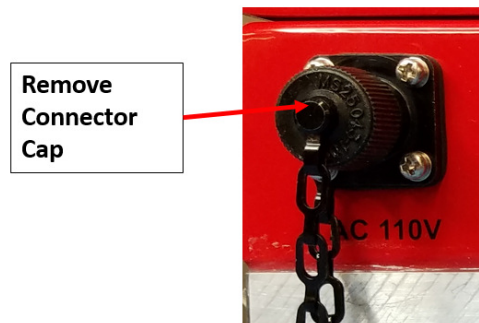

Figure 5-6: Remove the Power Connector Cap
- Connect the 9 position D-Sub connector at one end of the serial cable to the Alarm Relay connector on the PS71090, Figure 5-6. Be sure to fasten the connector screws securely.
1. Remove the cap from the AC 110V power connector on the Signal Booster, Figure 5-6.